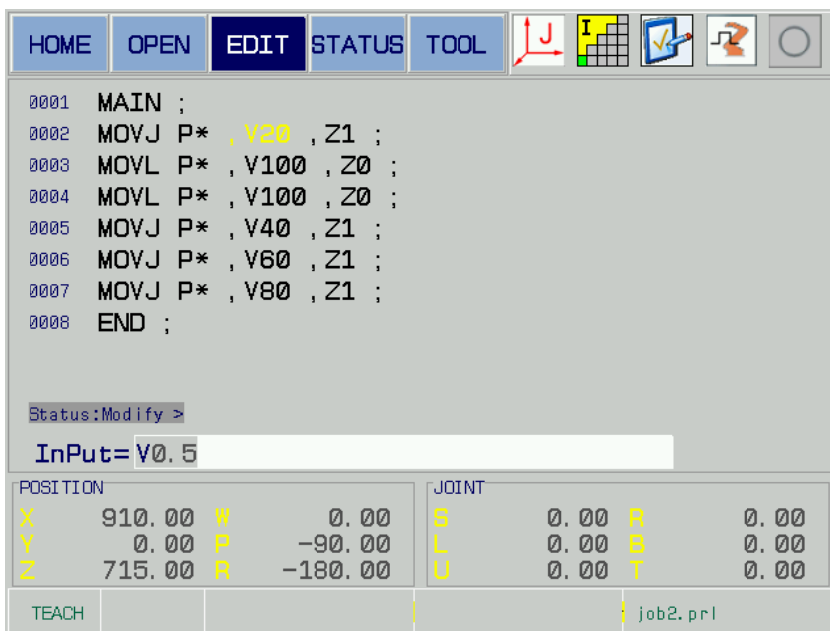

Fig. 5-53
2. Input the desired proportion value (0.1~1.9) of the MOVJ command movement by numerical value buttons; for example, input 0.5 by these buttons; refer to the Fig. 5-53.